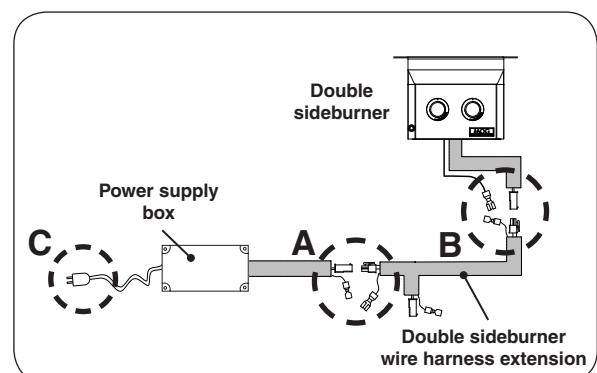

Fig. 16-4 Connect sideburner to power supply
3. Connect the power supply box connectors to the double sideburner wire harness extension, as shown in Fig. 16-4, **A** (molex and ground wire connections).
4. Connect the double sideburner wire harness extension to the double sideburner, as shown in Fig. 16-4, **B** (molex and ground wire connections).
5. Connect the cord coming from the power supply box to a **120VAC (15 AMP minimum) GFCI GROUNDED 3-wire receptacle**. See Fig. 16-4, **C**. The GFCI receptacle must be a WEATHER-PROOF IN-USE COVERED RECEPTACLE.